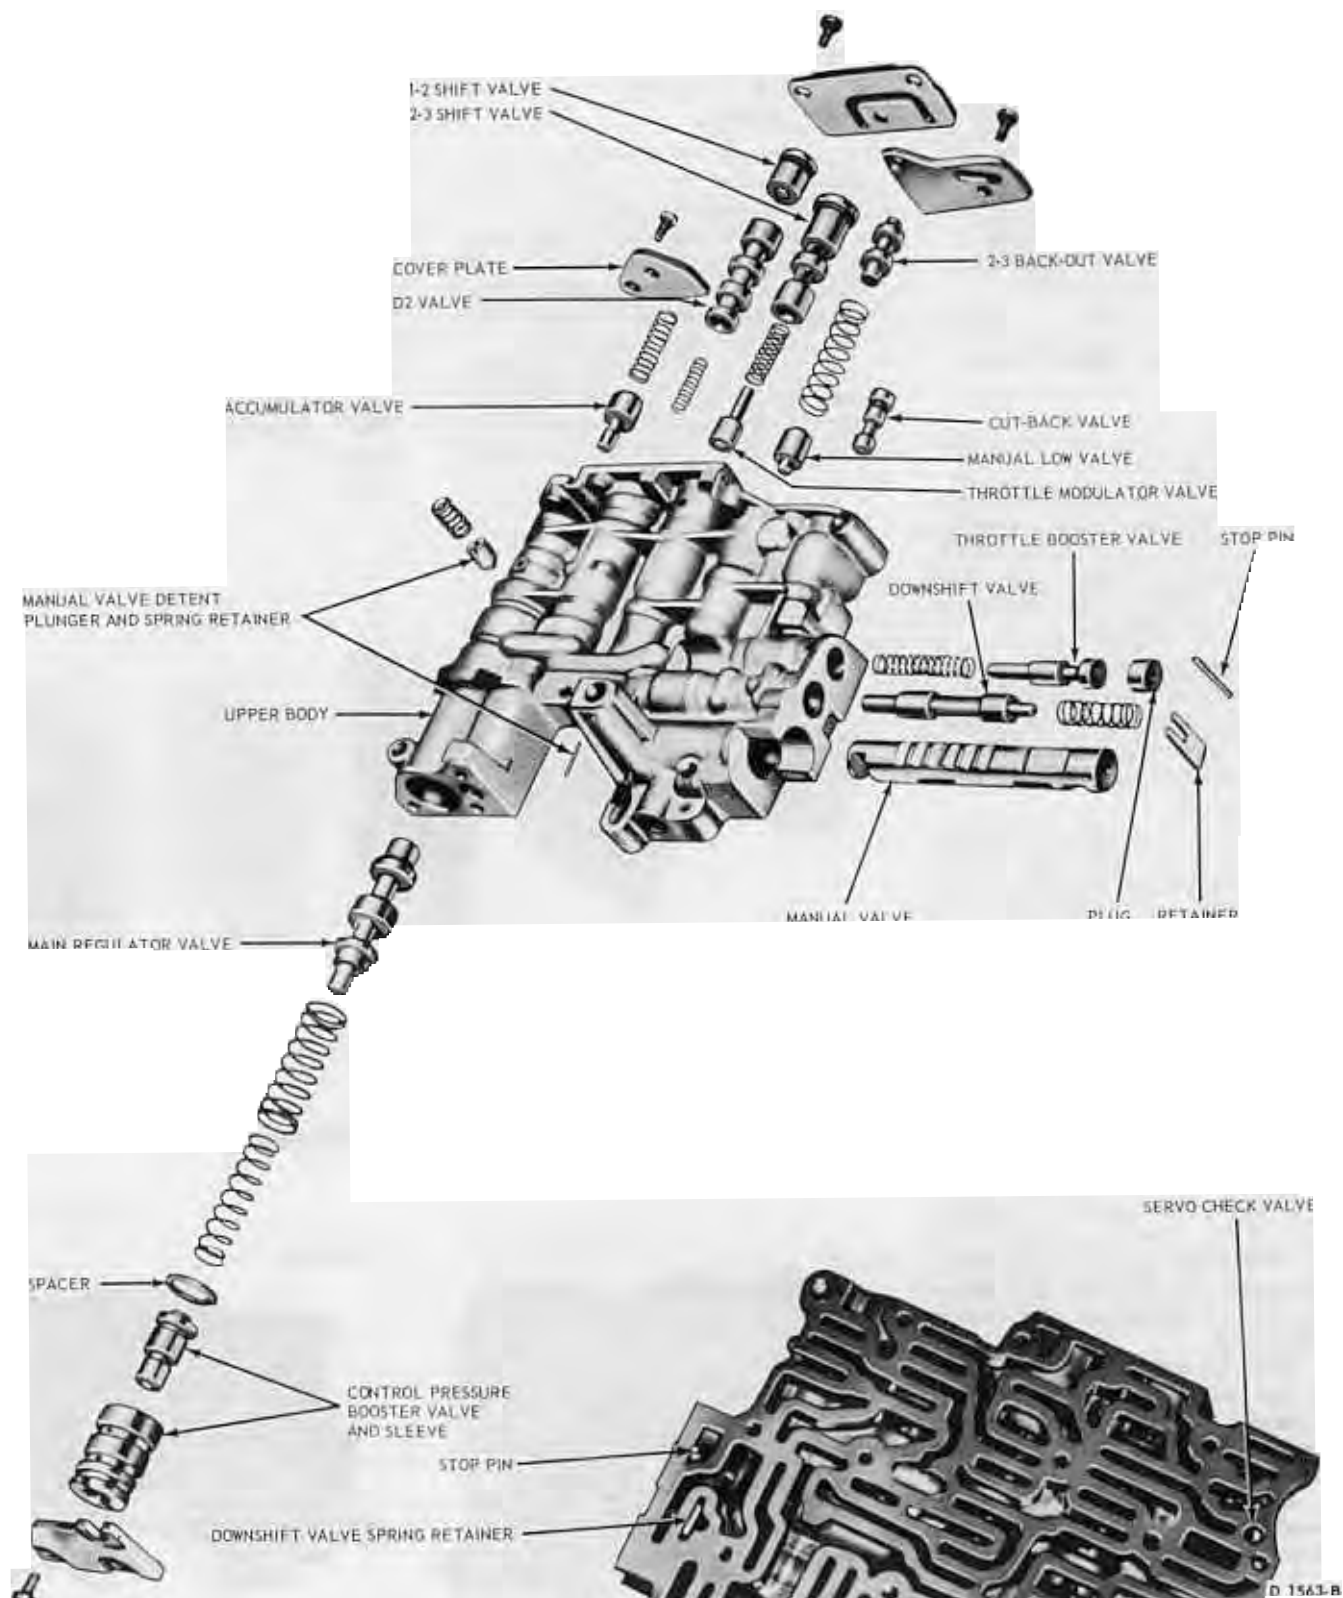

FIG. 66—Upper Valve Body Disassembled
5. Remove the cut-back and the back-out valve cover plate from the valve body (Fig. 66).
13. Remove the pressure booster valve cover plate (Fig. 66).
2. Place the throttle booster valve spring, valve (long end into spring) and the plug (Fig. 66). Depress the plug and install the retaining pin.
3. Insert the downshift valve into the body with the large diameter facing inward. Install the downshift valve spring and the retainer (Fig. 66).